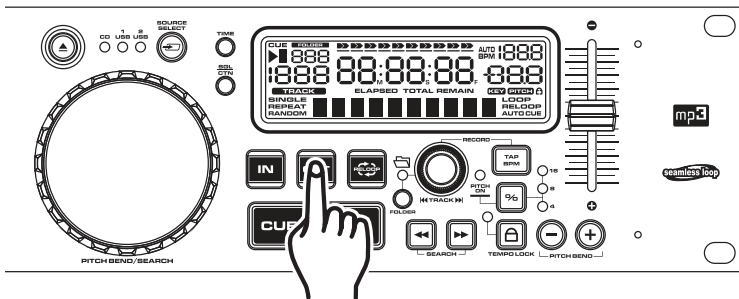

Figure 23
3) Press the *OUT BUTTON* (17) to set the ending point for your SEAMLESS LOOP (Figure 23). The *OUT* and *IN* BUTTONS will stay lit indicating a SEAMLESS LOOP is playing. Press the *OUT BUTTON* again to stop the Loop.
4) Press the *RELOOP BUTTON* (17) to reactivate the SEAMLESS LOOP. Press the *OUT BUTTON* (17) to deactivate the loop.